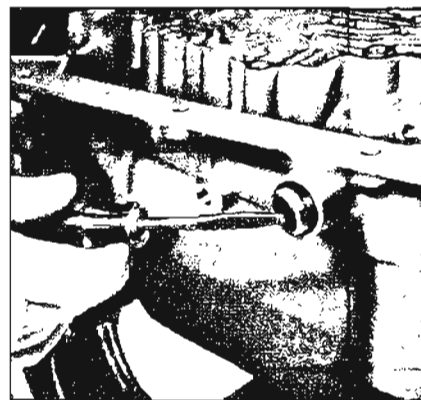

Figure 5-526
**NOTE:** If necessary to replace, pry the manual shaft seal out of case. See Figure 5-526.